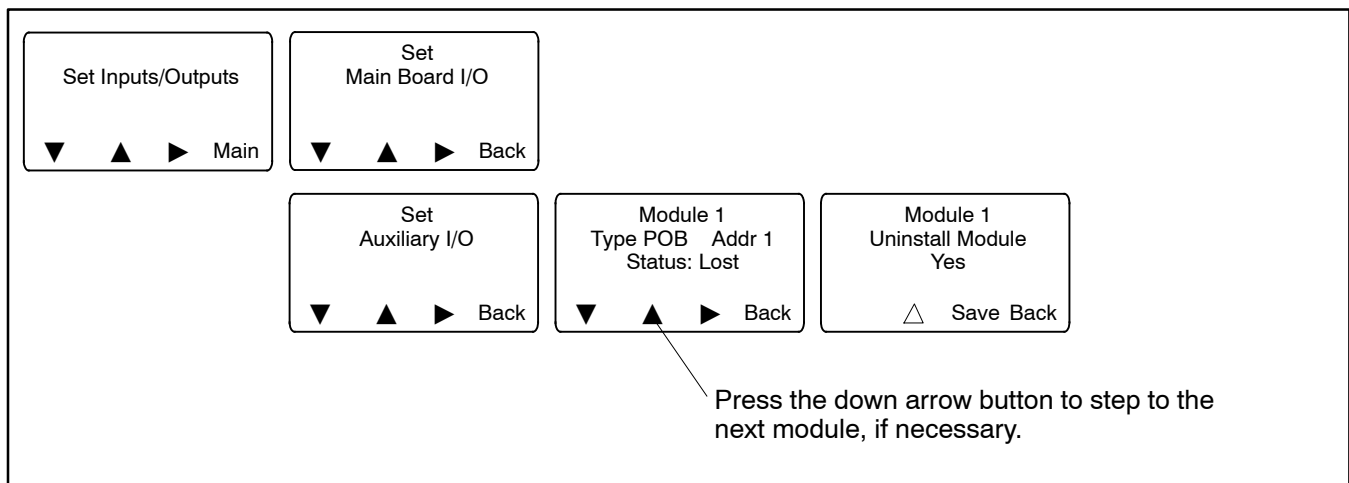

Figure 4-17 Uninstall Module
3. Navigate to the Set Input/Outputs>Set Aux I/O screen to check that the controller has recognized the connected modules. See Figure 4-17.
5. Press the down arrow to step to the Set Inputs/Outputs screen. See Figure 4-17.
6. Navigate to the Set Auxiliary I/O screen. See Figure 4-17. Press the right arrow button to see the status of module 1. Press the down arrow to step to the next module, if necessary, until the screen shows Status: Lost.
10. Navigate to the Set Auxiliary I/O screen to check the status and settings for the new module. See Figure 4-17. Press the right arrow button to see the status of module 1. Press the down arrow to step to the next module, if necessary,